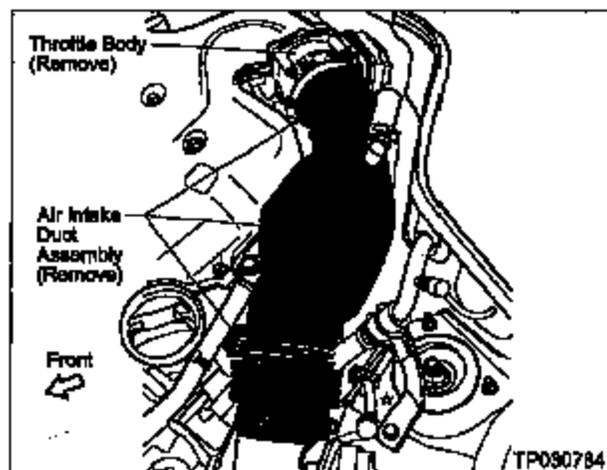

Figure 5
4. Remove the Air Inlet Duct and Throttle Body (see Figure 5).